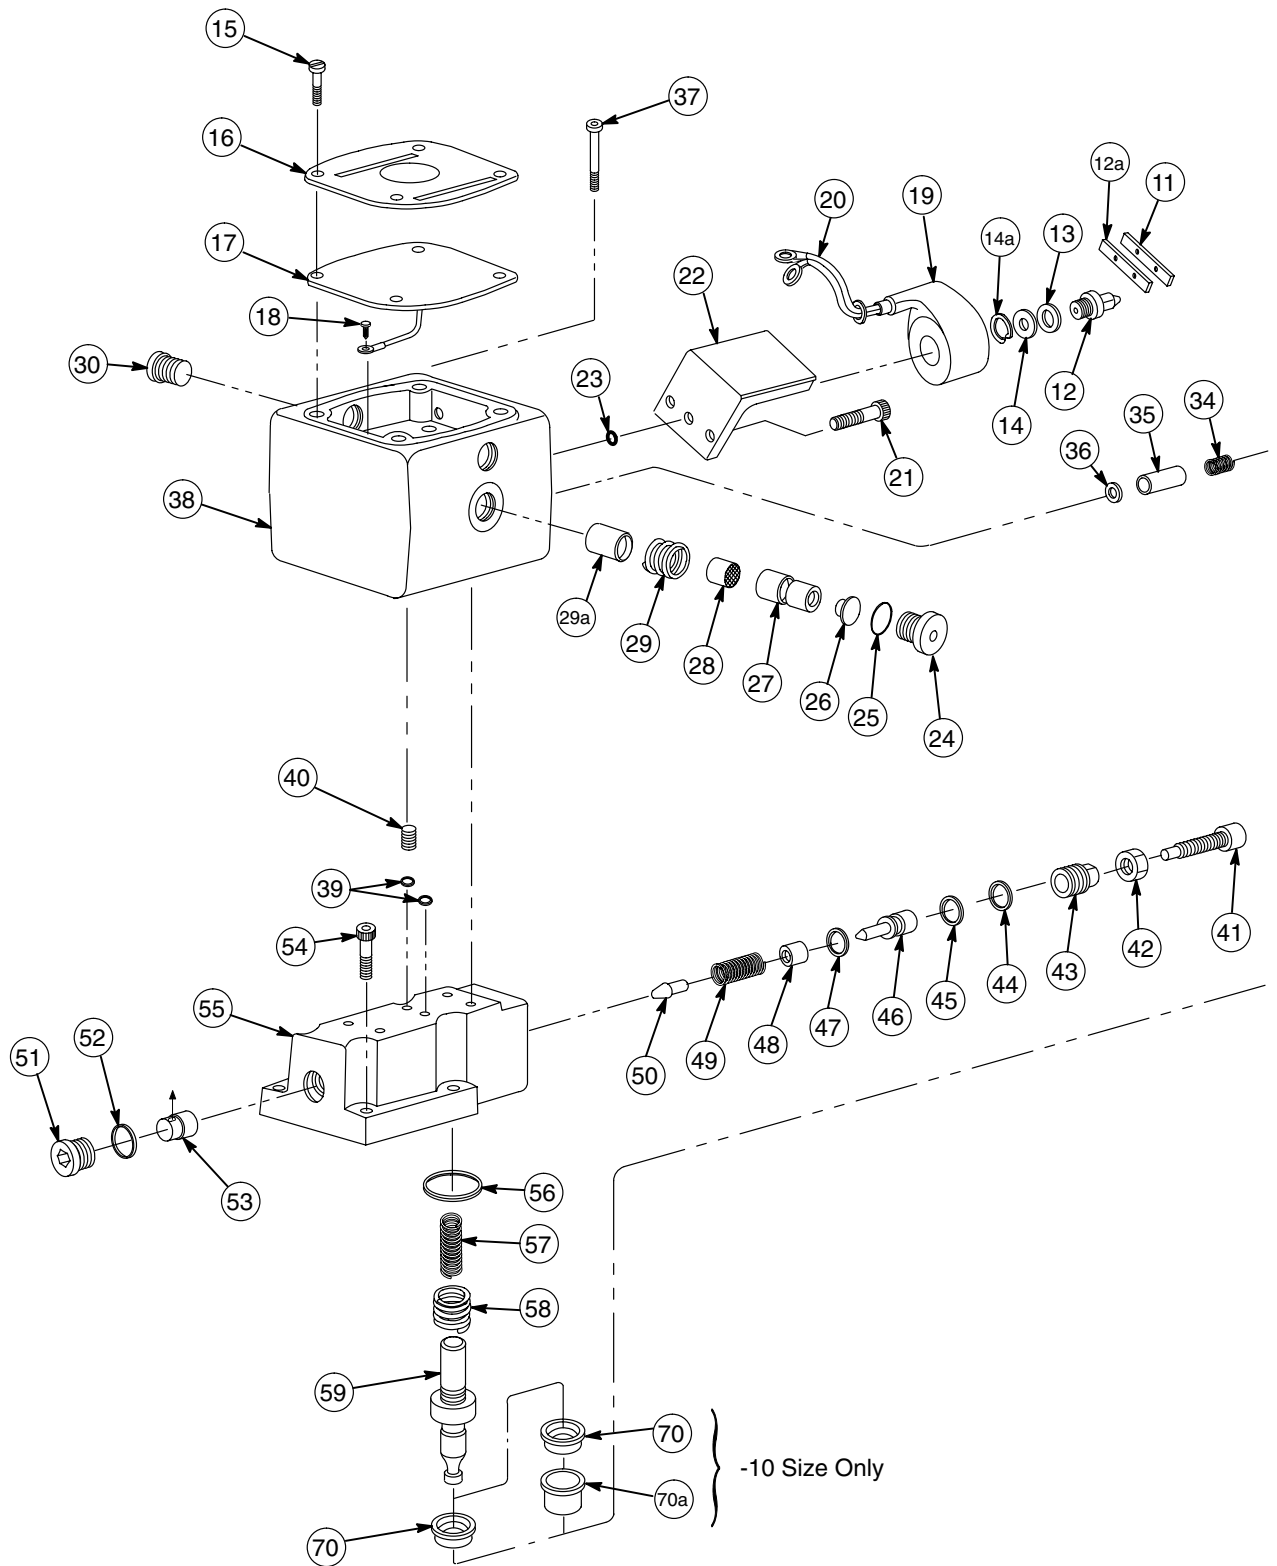

Figure 3.
Periodic maintenance of the valve will generally not require disassembly to the extent described here. However, the sequence can also be used as a guide for partial disassembly. In general, disassembly is accomplished in the item number sequence shown in Figure 3. Special procedures are included in the following steps:
2. The valve cover is full of fluid, so hold it over a container when cover (4), Figure 3 is removed.
Refer to index numbers located on Figure 3 throughout the disassembly procedure.
3. Remove parts (1) through (11a) except do not remove adjustment screw (7) from flapper plate S/A (8) unless inspection of nozzle (12) mating surface shows erosion. See Figure 3.
4. Remove nozzle (12) with a 5 mm open end or a small adjustable wrench. Turn nozzle counter-clockwise to remove.
CGE-10-*-20 units use a sleeve (70a) located below seat (70). Refer to Figure 3. Replace the seat and sleeve if damaged.
Do not stone edges of piston (59). See Figure 3.
Refer to index numbers located on Figure 3 throughout the inspection, repair and replacement procedure.